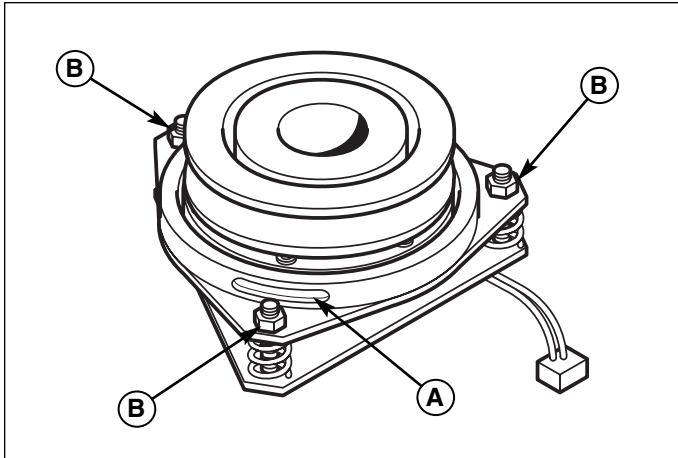

Figure 45. PTO Clutch Adjustment
2. See Figure 45. Note the position of the 3 adjustment windows (A) in the side of the brake plate and the nylock adjustment nuts (B).
4. Alternately tighten the adjustment nuts (B, Figure 45) until the rotor face and armature face just contacts the gauge.